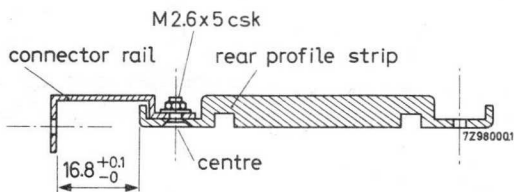

Fig. 9
2. Attach a connector rail to each rear profile strip by means of a countersunk screw M2.6x5, washer and nut in the countersunk centre hole (see Fig. 9; only two profile strips possess a countersunk centre hole; these are the rear profile strips).